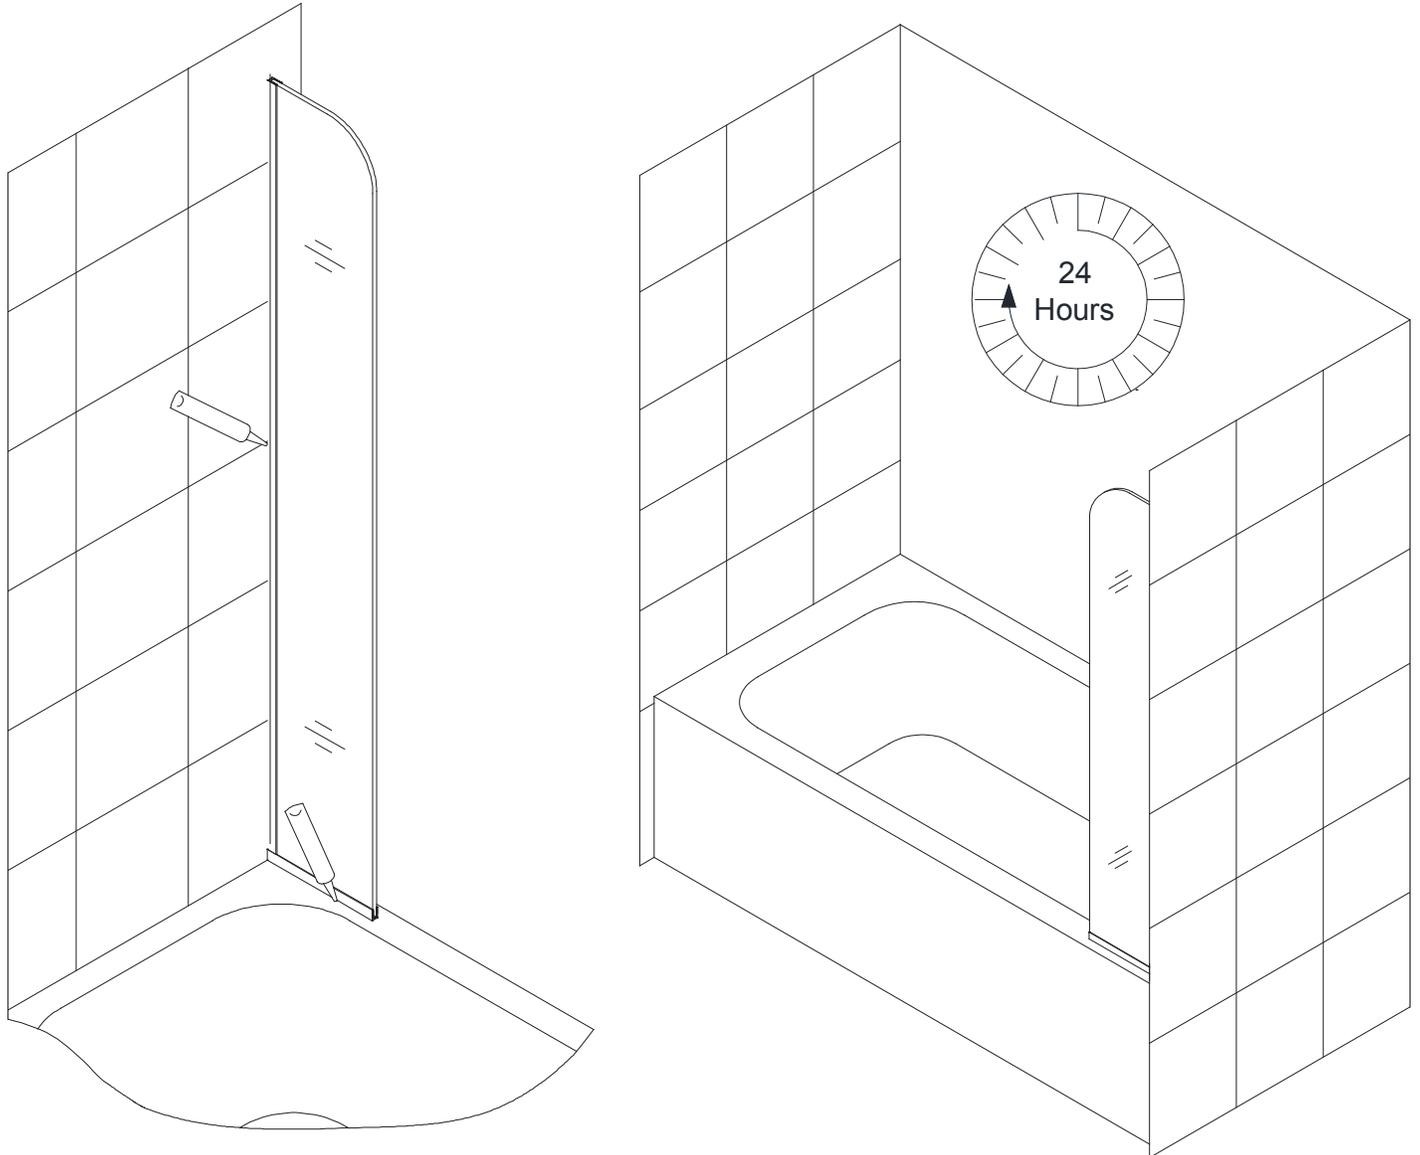

**Fig 6**
**NOTE:** If you have difficulty sliding the **Extender Panel Glass (#03)** into the U-Channels, you can use a small block of wood and a rubber mallet to lightly tap on the Extender glass until the glass is firmly set in the U-Channel. Apply a dab of silicone into both open ends of the U-Channels. (Fig 6)